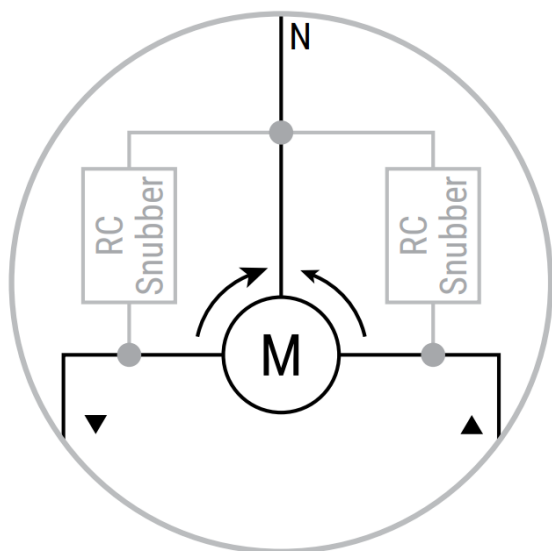

fig.2
**RECOMMENDATION:** To avoid potential voltage spikes during switching on/off the cover bi-directional motor, two RC snubbers ( $0.1\mu\text{F}$  /  $100\Omega$  /  $1/2\text{W}$  /  $600\text{V AC}$ ) should be connected between the common and the two direction terminals/cables of the cover motor as shown in **Fig. 2**.